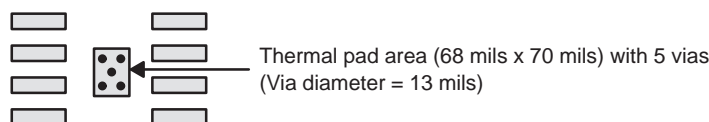

Figure 52. PowerPAD PCB Etch and Via Pattern
1. Prepare the PCB with a top side etch pattern as shown in Figure 52. There should be etch for the leads as well as etch for the thermal pad.